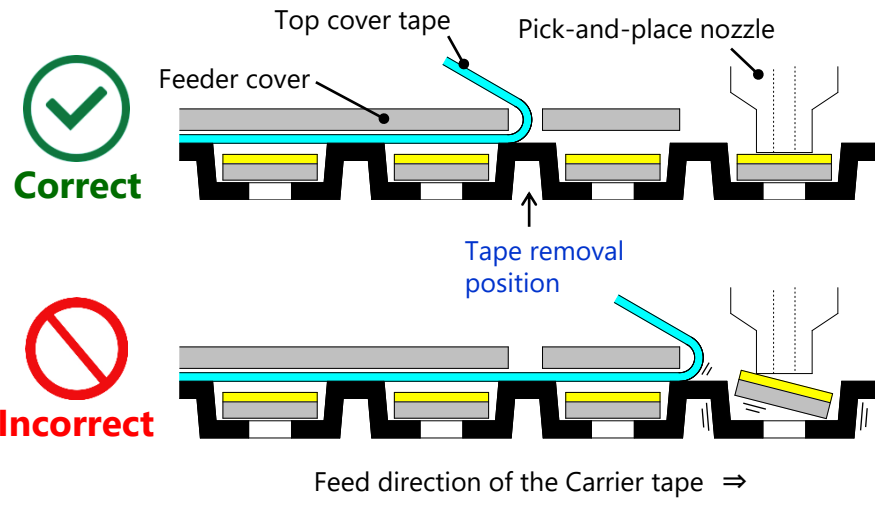

Figure 7. Examples of Top Cover Tape Removal Positions
- The recommended top cover tape removal position is one LED away from the target LED. (See the Figure 7)